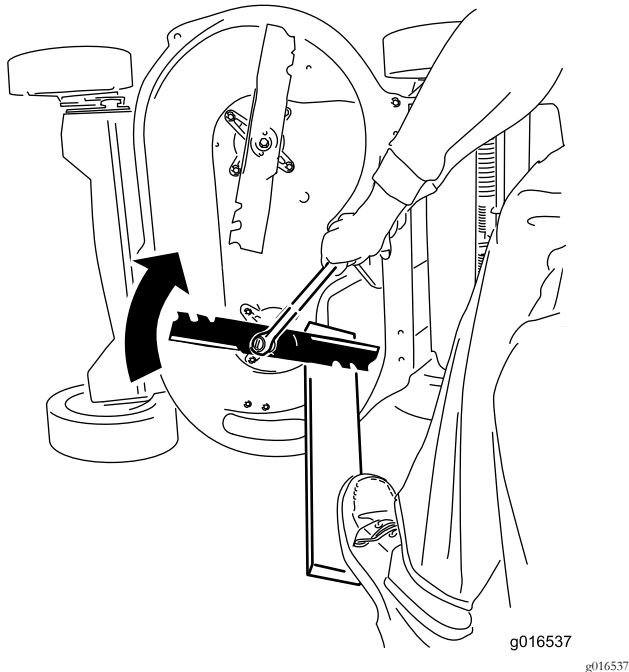

Figure 44
2. Steady each blade with a board and turn the blade bolt clockwise with a torque wrench as shown in Figure 44; torque the blade bolt to 82 N·m (60 ft-lb).